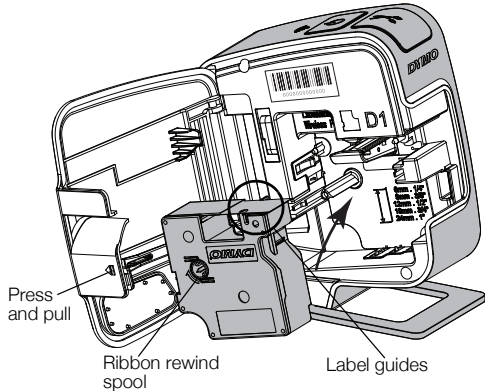

Figure 3
- 2 Make sure the tape and ribbon are taut across the mouth of the cassette and that the tape passes between the label guides. See Figure 3.